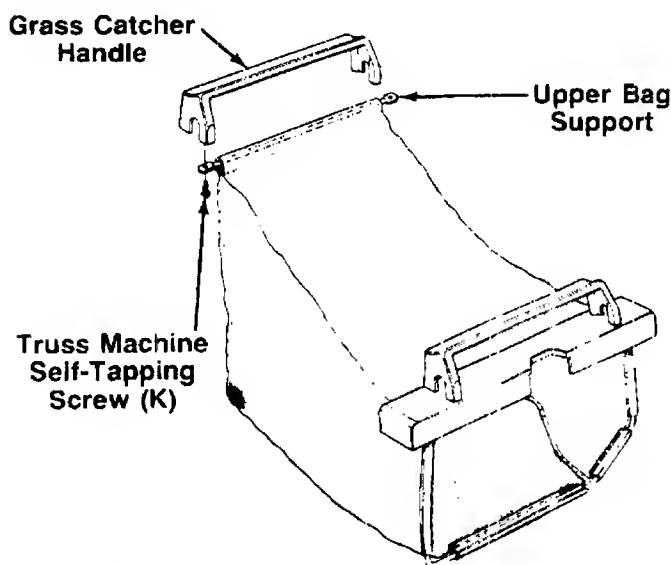

FIGURE 10.
- Place bag over frame (black plastic side is the bottom of bag). Handle on frame goes to the top of bag. Cutout in handle goes toward the front as shown in figure 10.
- Secure bag to frame by slipping plastic channels on bag over frame. See figure 10.
- Insert the upper bag support into the pocket on the rear of the bag. Place grass catcher handle on top of grass catcher support as shown in figure 10. The handle should hook toward the rear of the bag as shown in figure 10. Secure with two truss machine self-tapping screws (K).